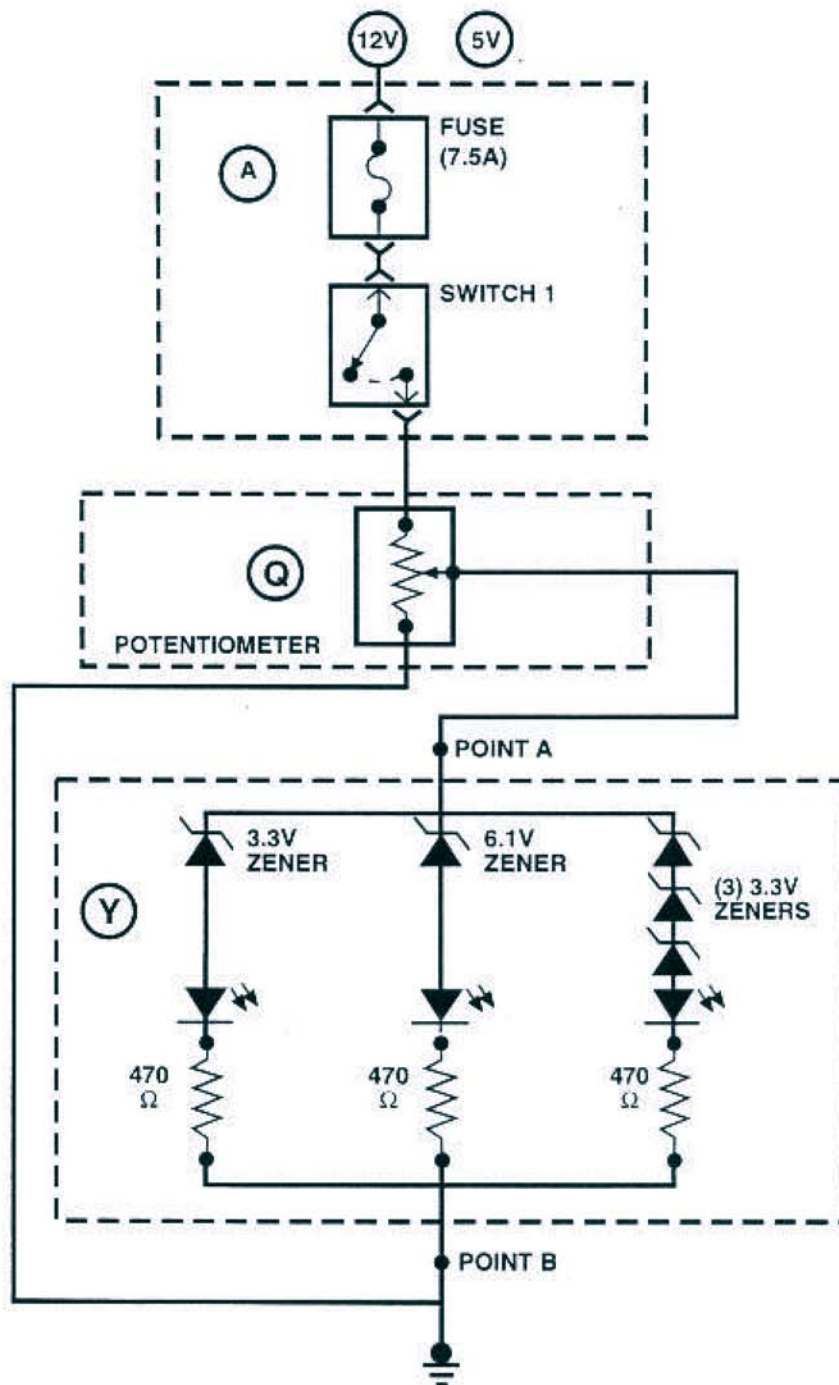

Figure 11-26
1. Assemble the circuit shown in Figure 11-26.